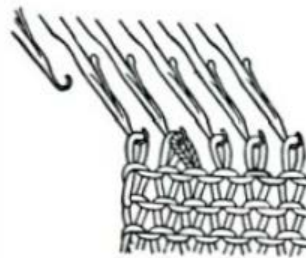

Fig.65
- b. Using the two or three needle transfer tool, shift all stitches in until all needles "in action" have stitches on them, then place the outer empty needles out of action. (See Fig. 65)